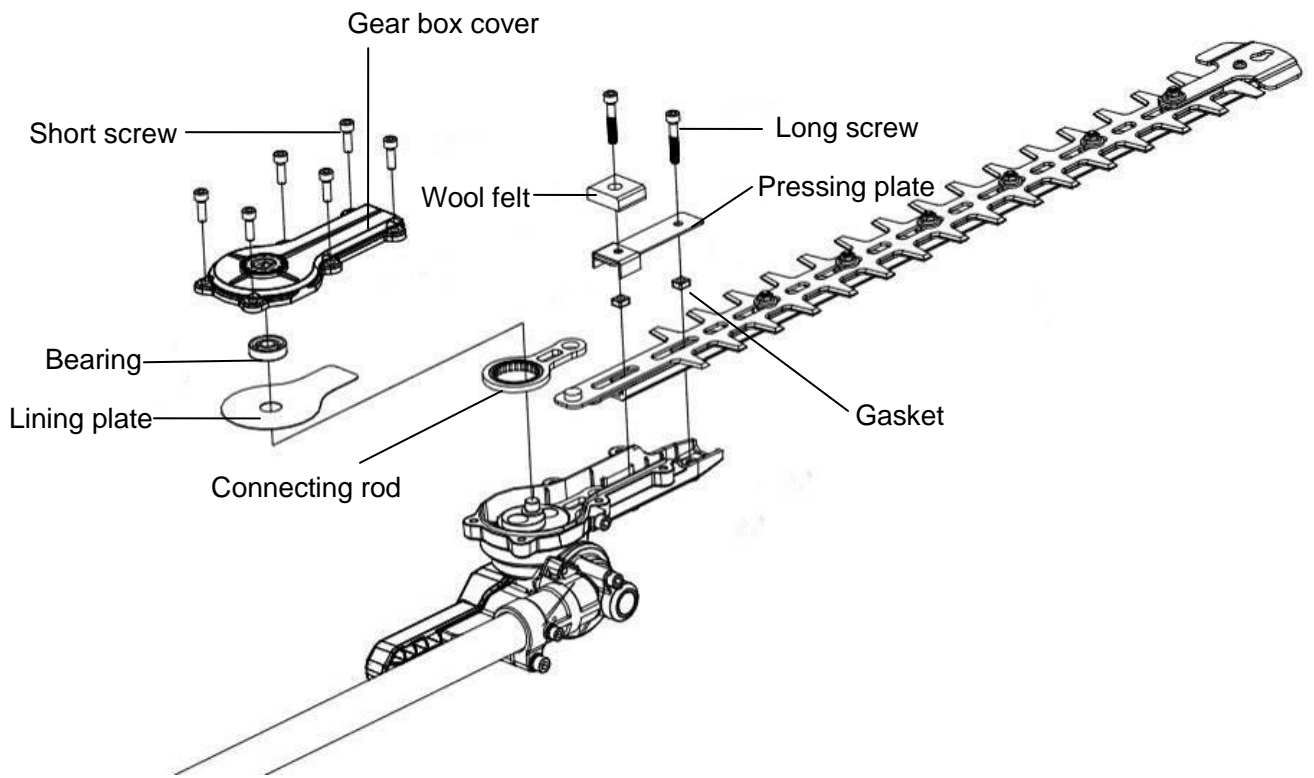

Fig. 28A
2. Adjust the blade to the horizontal position, ensuring that the blade assembly is in line with the hedge trimmer shaft, and put the gearbox cover upwards(Fig. 28A).